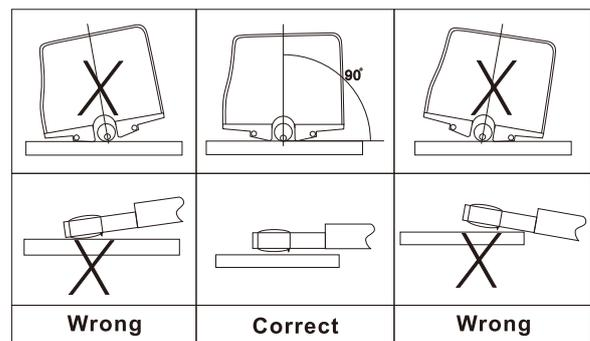
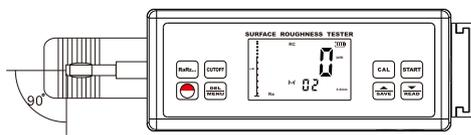

Fig.4-1
Fig.4-2
H. Refer to Figure 4-1 and Figure 4-2 to place the instrument correctly, stably and reliably on the surface to be measured.
I. Refer to Figure 4-2, the sliding trail of the sensor must be vertical to the direction of process line of the measured surface.